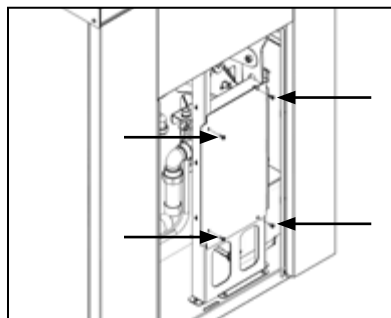

Figure 8-2: PCB housing screws
7. Slacken and remove the four screws securing the PCB housing. Refer to Figure 8-2.